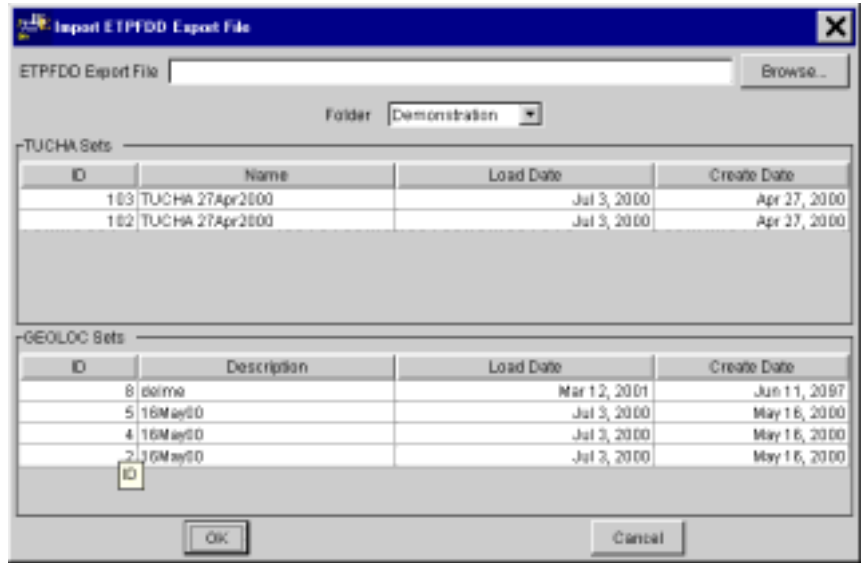

Figure 5.21 Import ETPFDD Export File Window
1. On the ETEdit (main) window, on the File menu, click Import ETPFDD. The Import ETPFDD Export File window opens (Figure 5.21).